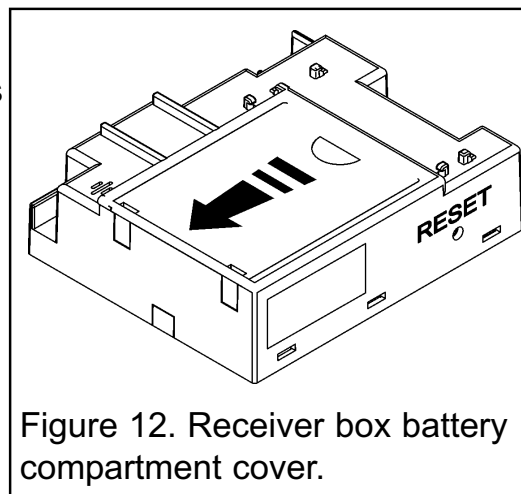

Figure 12. Receiver box battery compartment cover.
- Gently pull the receiver box forward and clear of its support. Slide the battery compartment cover clear (See figure 12). Remove the existing batteries. Fit four 1.5 Volt 'AA' size batteries. It is important that the +ve and -ve symbols on the battery match those of the illustration inside the battery holder. Replace the cover, slide the receiver back into its support bracket and shut the access cover.